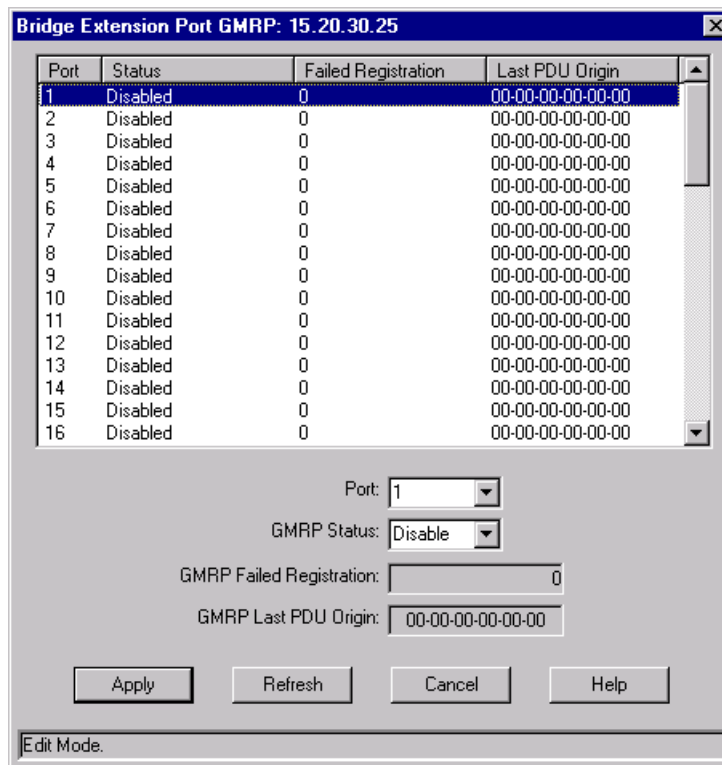

Figure 2-36. The Bridge Extension Port GMRP Window
2. In the Bridge Extension Configuration window, click on the **Priority** button and select **GMRP...** from the menu. The Bridge Extension Port GMRP window, Figure 2-36, appears: